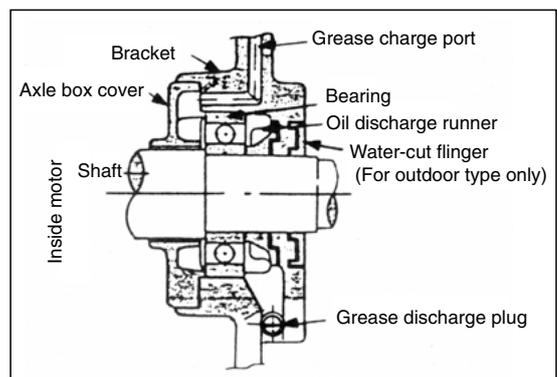

Fig. 6
- (b) Loosen the grease discharge plug (Figure 6). Discharge the used grease.